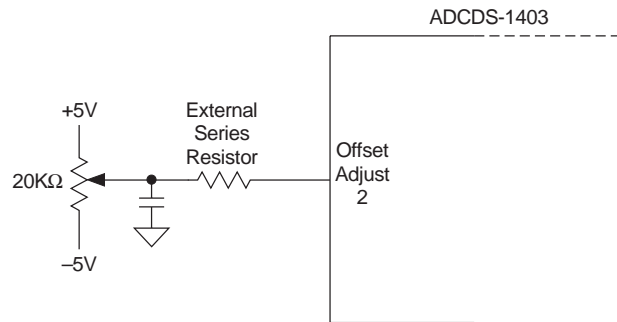
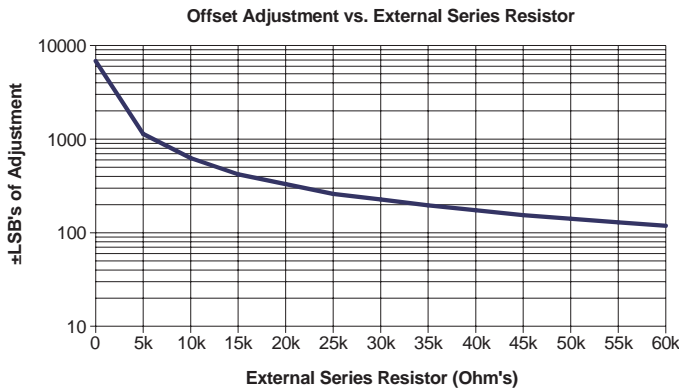

Figure 3. Offset Adjustment Circuit
Figure 6. Offset Adjustment vs. External Series Resistor
- If using the suggested offset and gain adjust circuits (Fig. 3 & 5), place them as close to the ADCDS-1403's package as possible.
Manual offset adjustment for the ADCDS-1403 can be accomplished using the adjustment circuit shown in Figure 3. A software controlled D/A converter can be substituted for the 20KΩ potentiometer. The offset adjustment feature allows the user to adjust the Offset/Dark Current level of the ADCDS-1403 until the output bits are 00 0000 0000 0000 and the LSB flickers between 0 and 1. Offset adjust should be performed before gain adjust to avoid interaction. The ADCDS-1403's offset adjustment is dependent on the value of the external series resistor used in the offset adjust circuit (Fig. 3). The Offset Adjustment graph (Fig. 6) illustrates the typical relationship between the external series resistor value and its offset adjustment capability utilizing ±5V supplies.